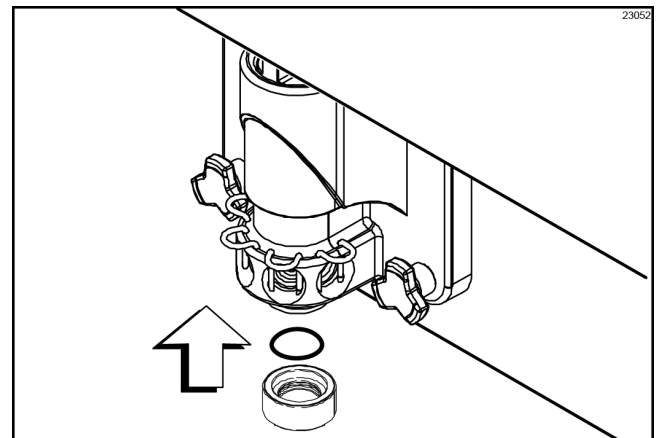

Figure-58
14. Place the spout cap O-ring in the spout cap. Fill the spout cap with sanitizing solution. Install the spout cap over the end of the door spout. (See Figure-58.)